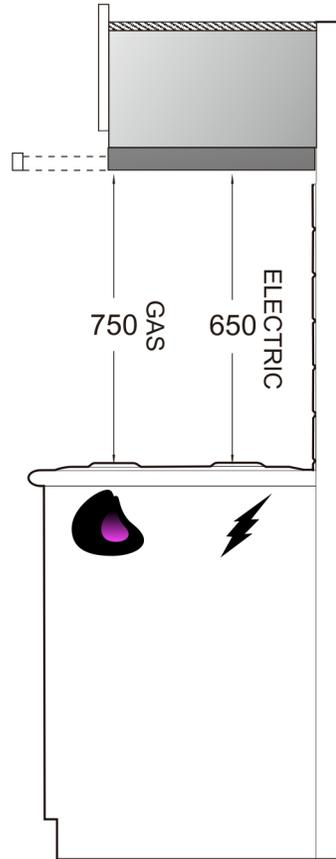

Fig.7
- The hood is to be mounted on the mounting board of the cabinet. When installed, the hood must be not less than 65cm above electric burners or 75cm above gas or mixed-fuel burners. (Fig. 7)